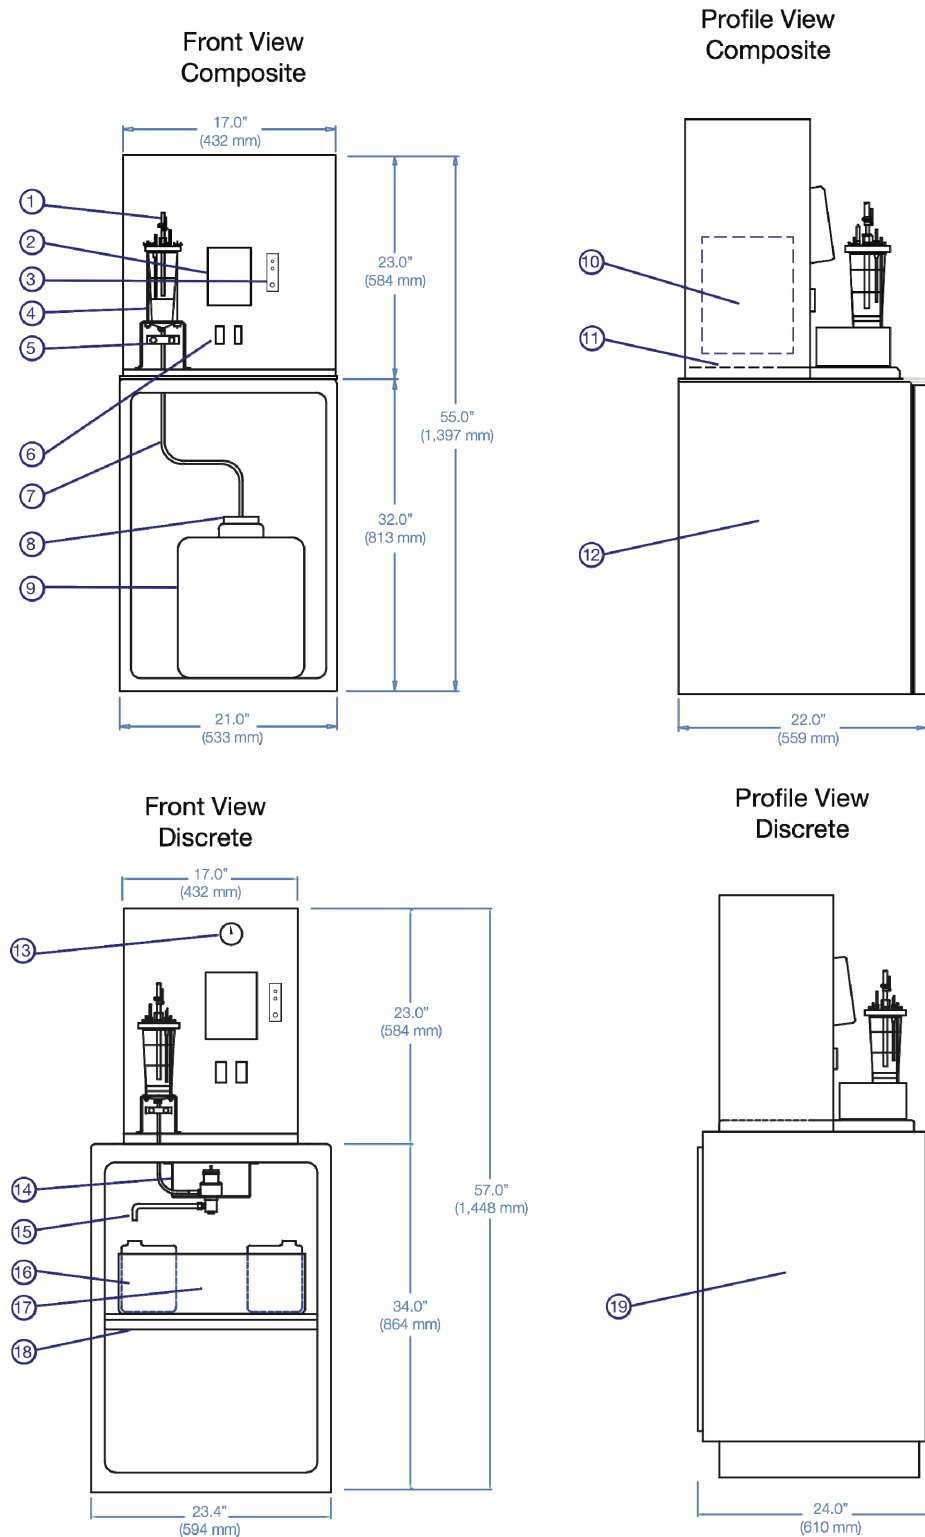

FIGURE 5-2. Diagrams of the CVS4200 basic unit
1. Remove the hood from chassis. The terminals for field connections are located along the back of the tray (11 on FIGURE 5-2). If the sampler has been provided with a refrigerator, the power plug is also located here.